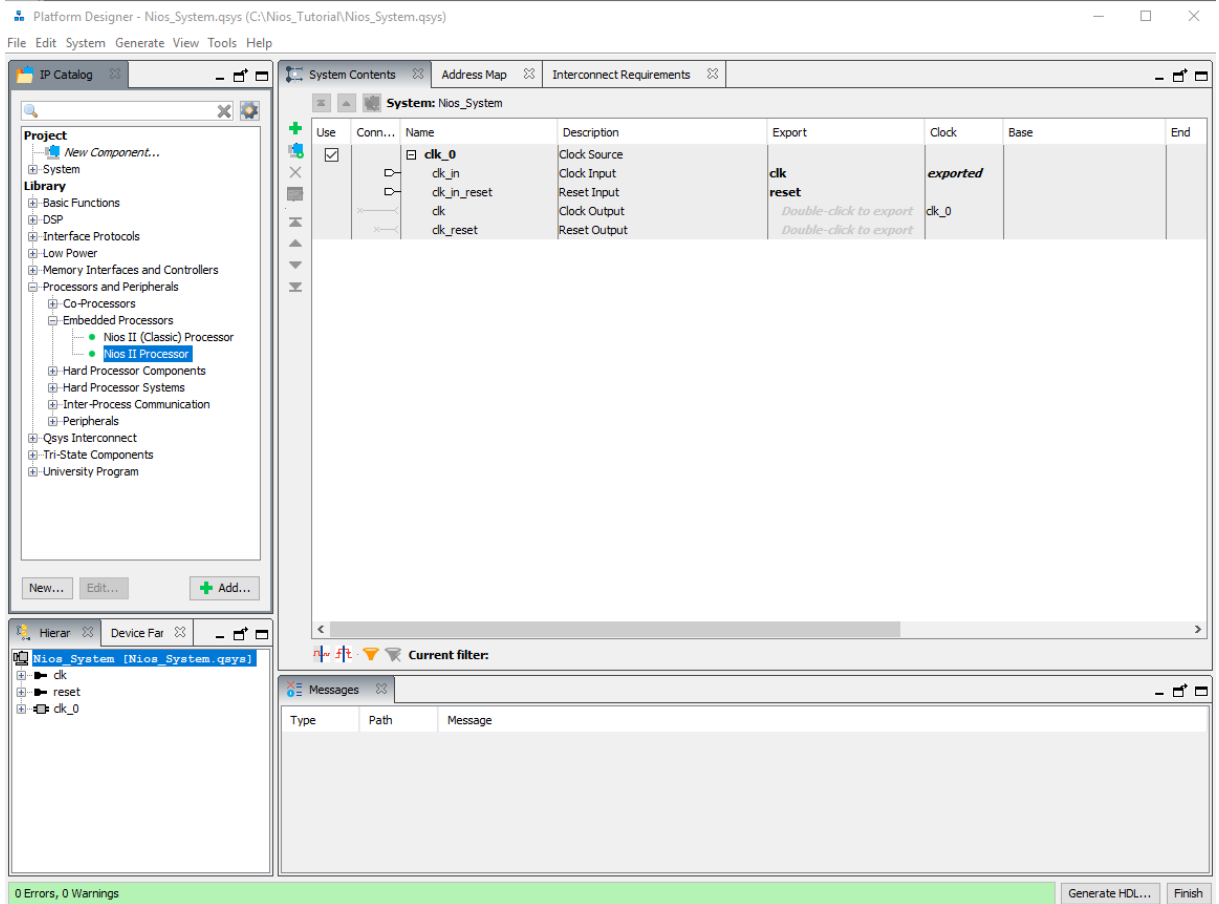

Figure 1-8 Adding Nios Processor to System
6.) Now we will start adding different components to our system to get everything connected. As you can see, the system already adds a clock for us to start out with. The first thing we are going to add is our Nios II processor. To do this we will go to **Library → Processors and Peripherals → Embedded Processor → Nios II Processor** as shown in Figure 1-8. Alternatively, you can search for different components.